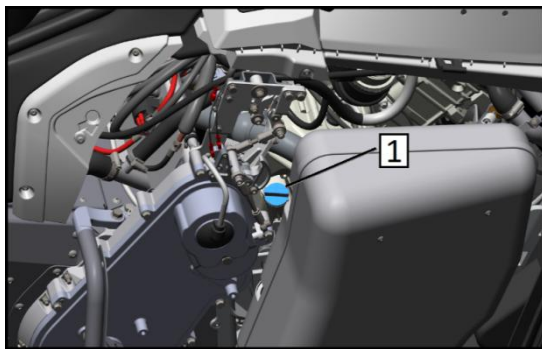

Fig. 4
3. Cold motor. Unscrew the probe counterclockwise (pose 1, figure 4), take it out and wipe it.
3. Cold engine. Unscrew the probe counterclockwise (pose 1, figure 4), take it out and wipe it.